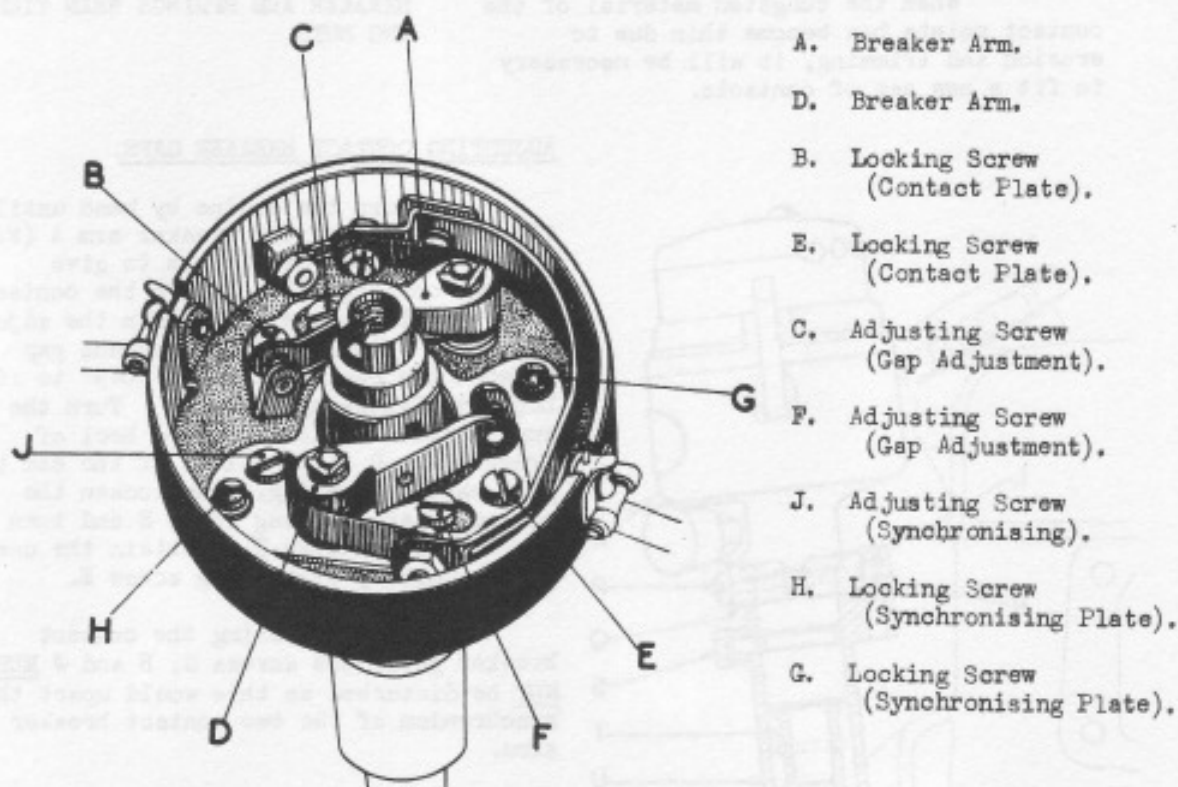
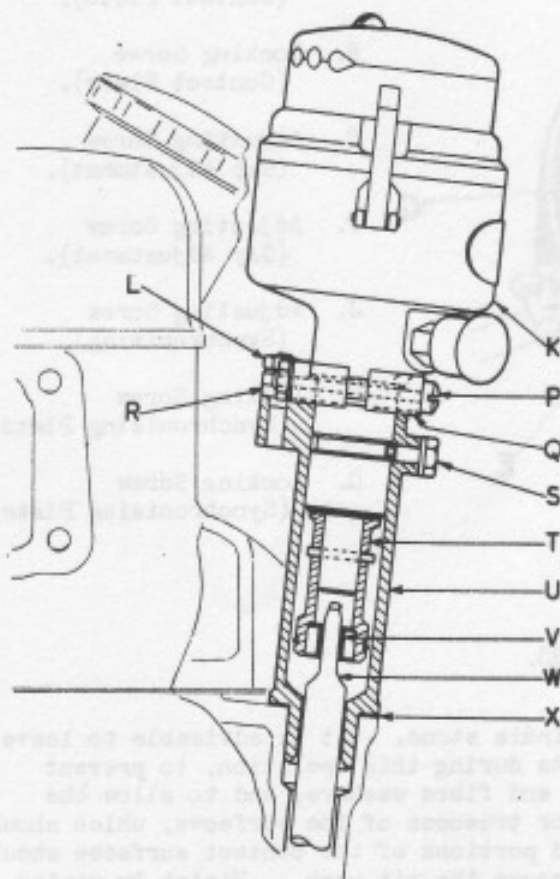

FIG. 23. LOW TENSION CONTACT BREAKERS.
FIG. 25. DISTRIBUTOR AND HOUSING IN POSITION.
Lift the Rotor Arm off the top of the spindle. Remove the small screws which attach the springs to their anchorage. Remove the two Contact Plate Locking Screws B and E (see Fig.23), then remove the contact plates complete with breaker arms. Screws G, H and J MUST NOT be disturbed.
Turn the engine by hand until the fibre heel of the breaker arm A (Fig. 23) is on a lobe of the cam to give maximum opening, then loosen the contact plate locking screw B and turn the adjusting screw C to obtain the correct gap between the contacts, i.e., .019" to .021". Lock by tightening screw B. Turn the engine again until the fibre heel of breaker arm D is on a lobe of the cam to give maximum opening, then loosen the contact plate locking screw E and turn the adjusting screw F to obtain the correct gap. Lock by tightening screw E.
- If the screws G, H and J (Fig.23) have been accidentally disturbed.
Remove the distributor complete with the housing U (Fig.25) as follows:-
Slide the packing washer R (Fig.25) and the housing U over the mounting spigot of the distributor, making sure that the stud in the housing passes through the packing washer and the clamping plate Q, then secure with the flat spring washer and the nut L. Replace the spring washer and setscrew S.
To check the timing, turn the engine by the above method until the distributor rotor arm approaches the No.1 cylinder firing position, then continue to turn very slowly until the points just break contact. The moment the points "break" contact, prevent any further movement of the flywheel and observe the position of the flywheel marking through the inspection hole. The IGN/TDC marking should be in line with the timing pointer. If this is not so, turn the engine until the marking does line up with the pointer (not forgetting that the engine must be turned in its correct direction of rotation only) and then slacken the distributor head clamping screw (P, Fig.25) and rotate the distributor body in an anti-clockwise direction until the points of breaker arm (A, Fig.23) just break contact. Tighten the clamping screw (P) and check the timing again. If necessary re-adjust and then re-check.